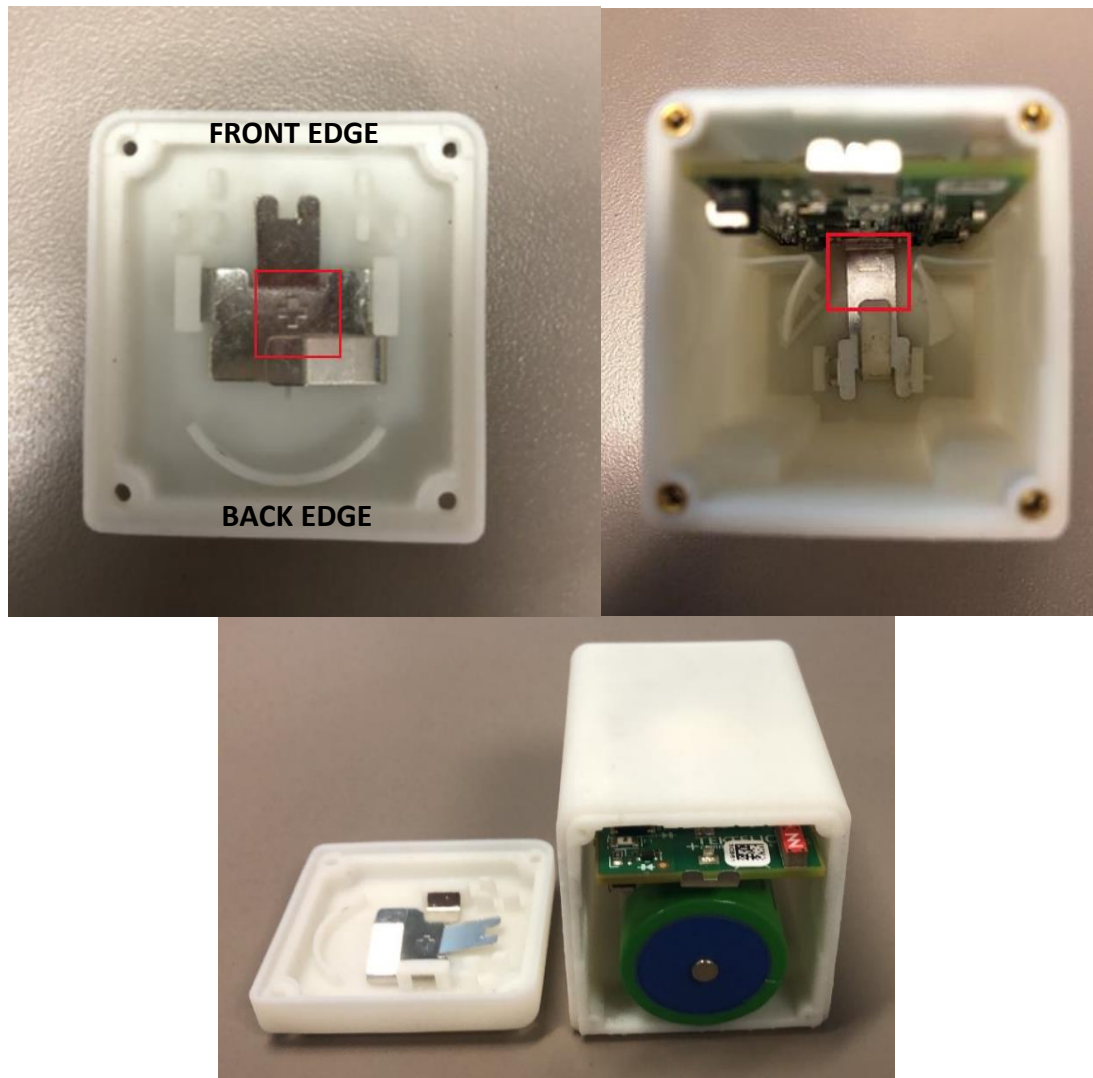

Figure 2-3: Polarity Markers and Battery Insertion
2. Remove the depleted battery and replace it with a new 3.6V Lithium Thionyl Chloride C-size battery **ONLY**. When inserting the new battery, insert the negative terminal side first. The battery contact on the battery cover is the positive contact and is marked with a plus-sign (+) as shown in Figure 2-3.
4. Before reattaching the battery cover, ensure the proper orientation of the cover with respect to the front and back of the sensor chassis. The front of the sensor has rounder corners, and the back of the sensor has sharper corners, as seen in Figure 2-3.